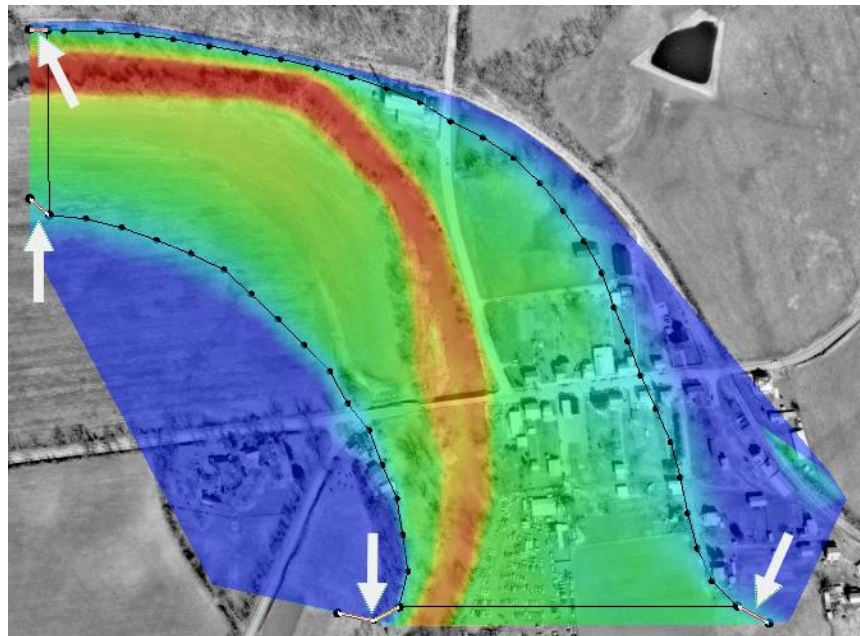

Figure 6 Dangling arcs to be deleted
- Using the **Select Feature Arc**  tool, delete the four dangling arcs beyond the upstream and downstream boundary arcs (indicated by arrows in Figure 6) by selecting each one and pressing the *Delete* key.